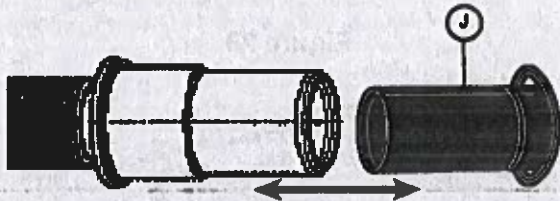

Figure 15
2. Obtain the Rubber Drain Hose Adaptor (J) spring clamp from the Dishwasher Installation Kit (do not substitute).
3. Insert the dishwasher drain hose into the end of the drain hose (see Figure 15). Be sure to fully insert the drain hose.